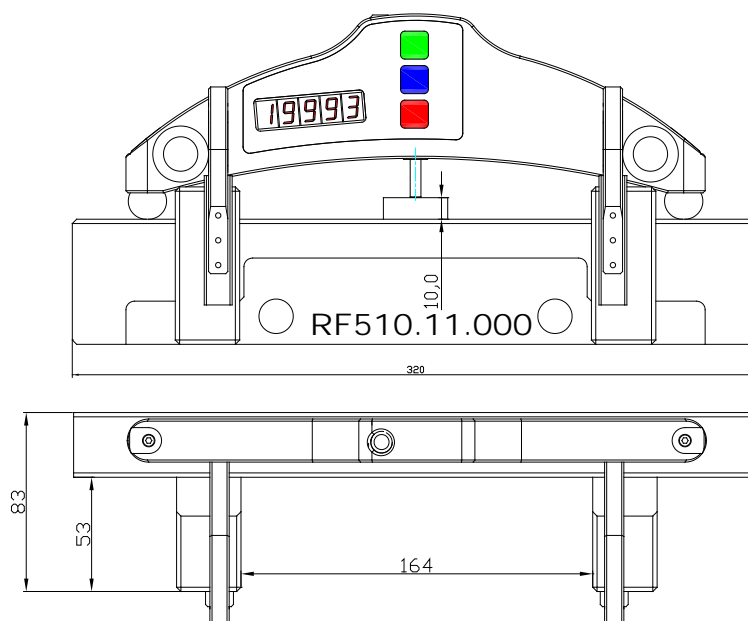

Figure 4
- Calibration plate with the deviation from flatness less then $\pm 0,5$ μm for 250 mm length (or Flat block RF510.11.000, figure 4);